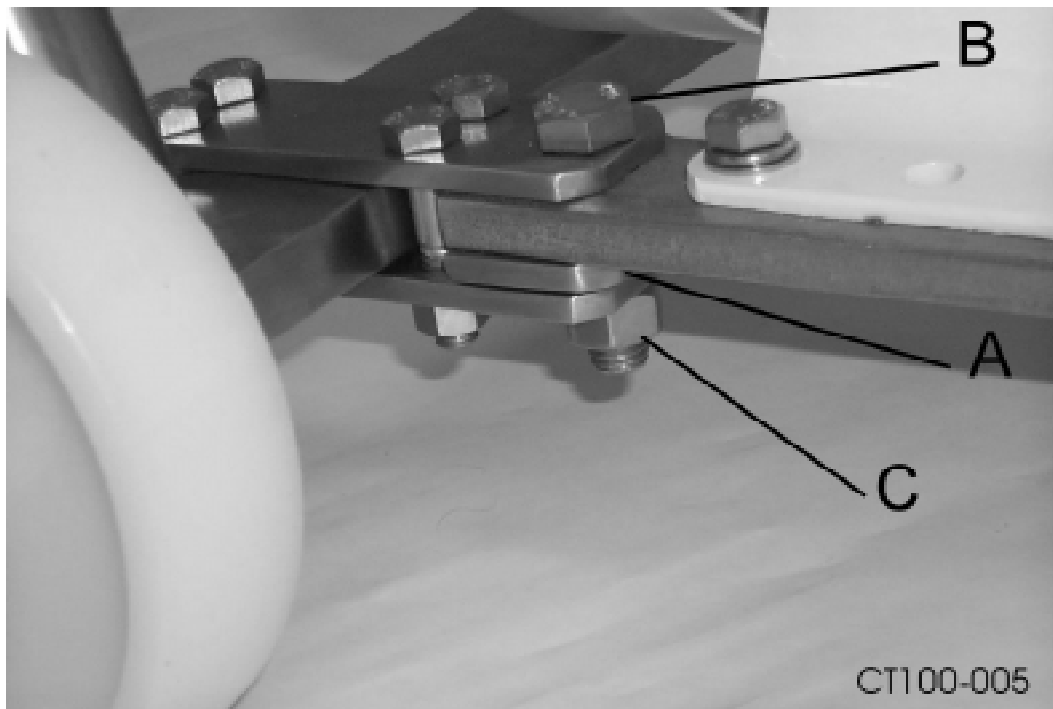

Figure 5. Spacer Location
7. Place the spacer (item A, Figure 5) between the bottom of the pump leg bracket and bottom bracket piece of the bracket assembly. (See Figure 5).
8. Install the large bolt and capscrew. (Items B and C, Figure 5).